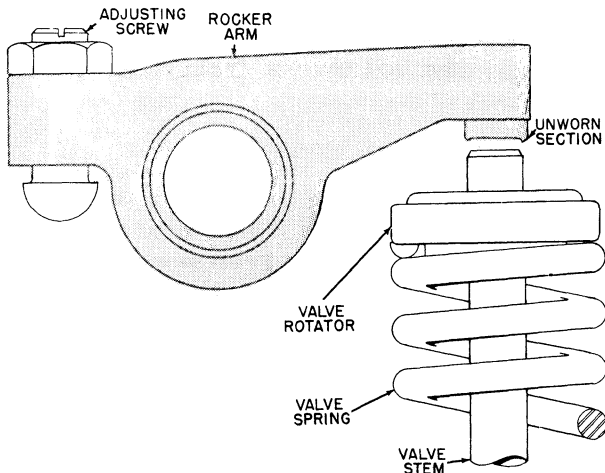

Figure 4 - Cupped Rocker Arm
1. Inspect each of the rocker arm shaft bushings for scores, scratches, or excessive wear making sure the oil holes are properly aligned and not plugged. Cupping at the end of the levers that contact the valve stem should be observed and discarded or reground where it is excessive. Cupping makes it difficult to secure and maintain proper adjustment of the valve. Figure 4.